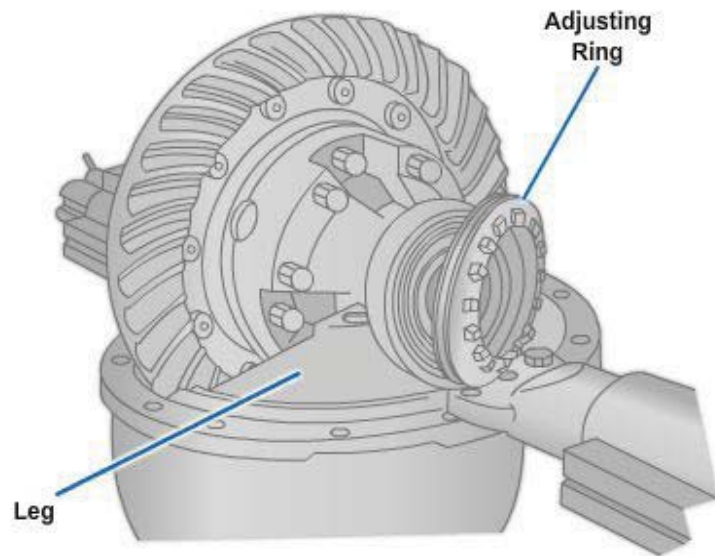

Figure 8-88 - Installation of adjusting rings.
6. Install both of the bearing adjusting rings into position between the carrier legs (*Figure 8-88*). Turn each adjusting ring hand-tight against the bearing cup.